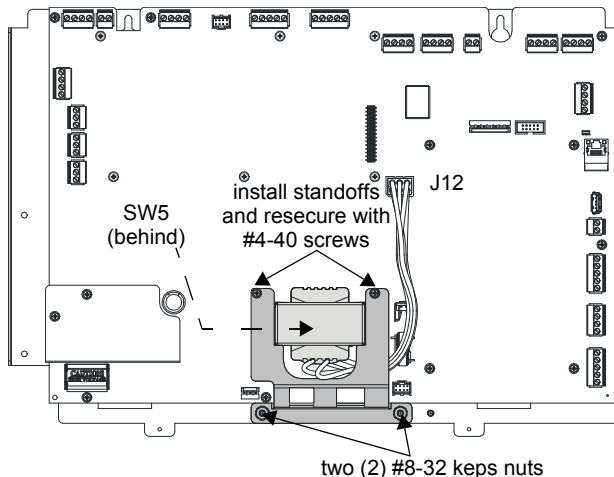

Figure 1 Installing the Transformer Bracket
2. Remove the two (2) mounting screws from the main control board, as indicated in Figure 1, and replace with the supplied 1-9/16" long male/female standoffs.
4. Secure transformer bracket to the main board using the two (2) screws removed in step 2 and to the chassis with two (2) supplied #8-32 keps nuts. Install using 11/32" socket.
4. Secure transformer bracket to the chassis using two (2) #8-32 keps nuts. Do *not* replace the two (2) #4-40 mounting screws at this time. These will be replaced in step 5.